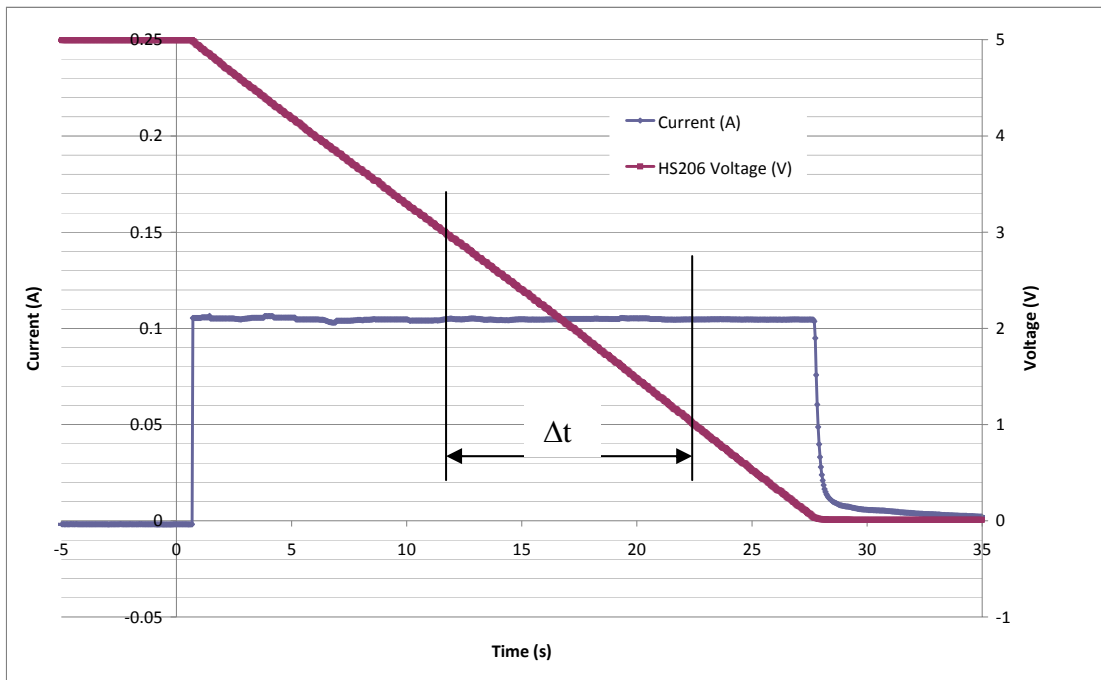

Fig 2: Measurement of DC capacitance
In its simplest form, the Equivalent Series Resistance (ESR) of a capacitor is the real part of the complex impedance. In the time domain it can be found by applying a step discharge current to a charged capacitor as in figure 2. In this figure the supercapacitor is pre-charged and then discharged with a current pulse (I). The ESR is found by dividing the instantaneous voltage step ( $\Delta V$ ) by I. The instantaneous capacitance ( $C_i$ ) can be found by taking the inverse of the derivative of the voltage and multiplying it by I. The effective capacitance ( $C_e$ ) is found by dividing the total charge removed from the capacitor ( $\Delta Q_n$ ) by the voltage lost by the capacitor ( $\Delta V_n$ ). Note that  $\Delta V$ , or IR drop, is not included because very little charge is removed from the capacitor during this time.  $C_e$  shows the time response of the capacitor and it is useful for predicting circuit behavior in pulsed applications.
In the example of Fig 2, for a  $\Delta V_n = 3.0V - 1.0V = 2V$ , the corresponding  $\Delta t_n = 22.52s - 11.72s = 10.8s$ .  $C = I \times \Delta t_n / \Delta V_n$  where  $I = 0.105A$ , therefore  $C = 0.105 \times 11.2s / 2.0V = 567mF$ .